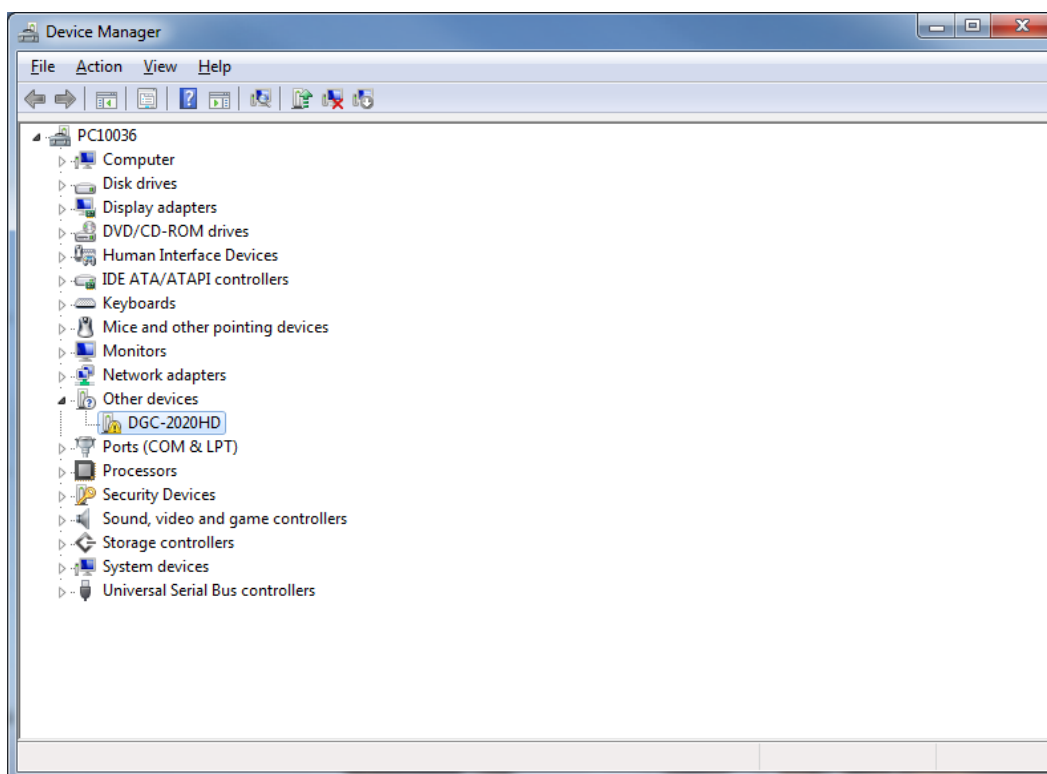

Figure 9-2. Device Manager
- Step 2. Open the Windows® Device Manager as shown in Figure 9-2. Right-click on DGC-2020HD (or Unknown Device) under Other Devices and select Properties.